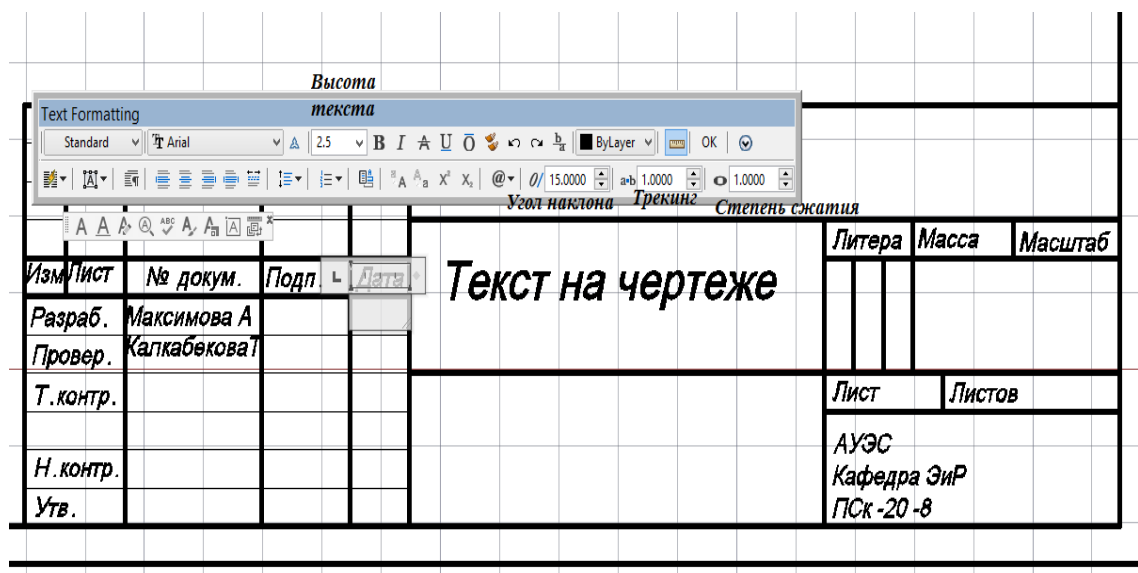

Figure 3.3 – Completed title block table
3.2.3 Further, it is necessary to maintain the text, according to Figure 3.3. In order to retreat from the cell line, you must press the space bar. In order to change the
height of the text, the angle of inclination, compression ratio, font and so on, you need to select all the text and change its parameters through the tab "Text" - "Formatting" on the panel "Drawing" (figure 3.3).